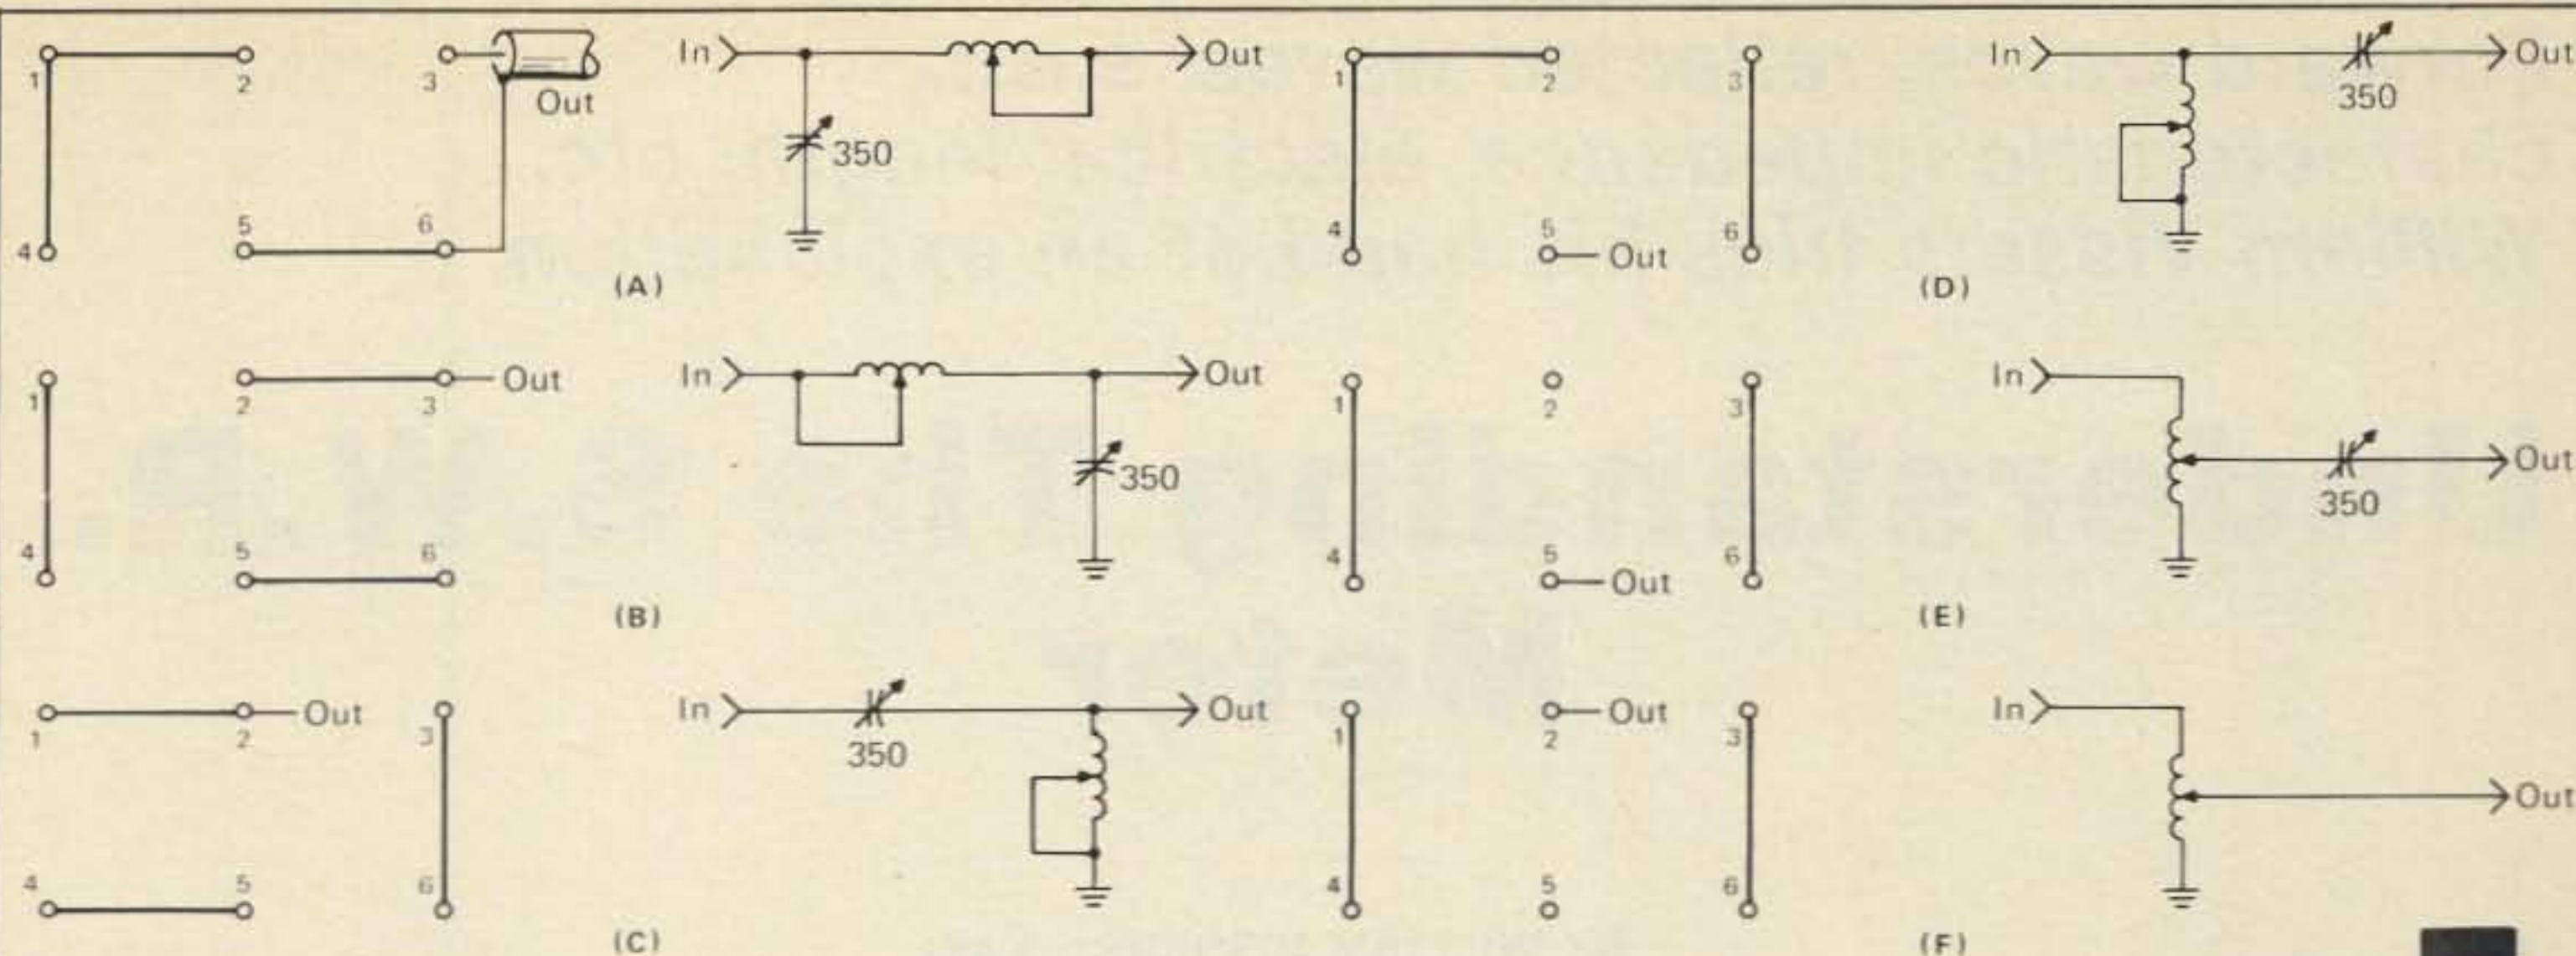
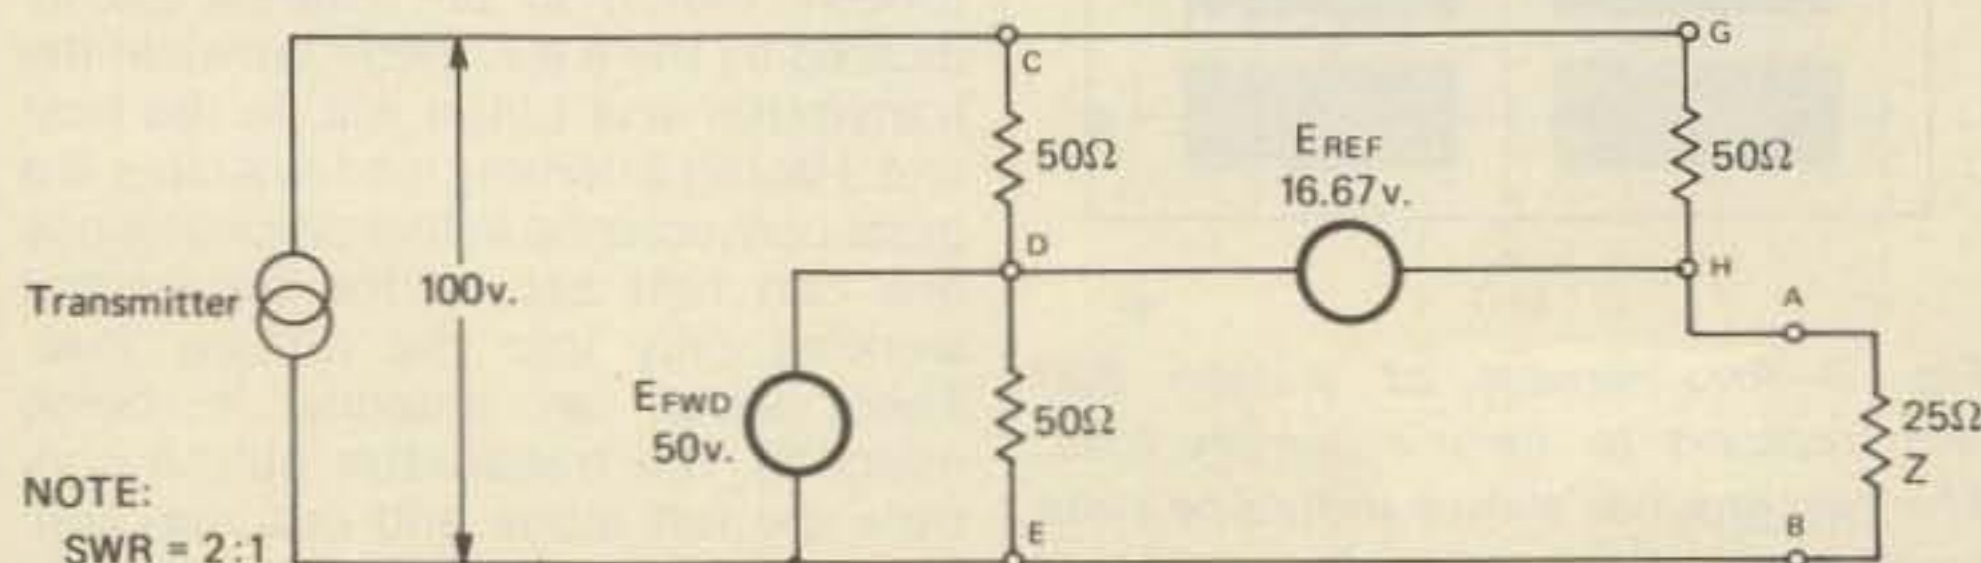

Fig. 2—Five matching networks that can be developed by strapping together the binding posts with links or just with wire.
Fig. 1 - A "primitive" bridge circuit.
Fig. 1—The binding post matrix as it would be arranged on the outside rear panel of a tuner enclosure (A). At (B) the dashed lines show the internal connections to the components mounted inside the enclosure.
The binding post matrix is something that one constructs by arranging six ordinary "5-way" insulated binding posts on a suitable panel as shown in fig. 1(a). The panel used would usually be the rear of the housing used for the antenna tuner. The spacing "X" can be any convenient spacing to suit the size of the panel or enclosure available - from  $\frac{3}{4}$  to  $1\frac{1}{2}$  inches, for instance. The connections of the tuner components to the matrix is made as show in fig. 1 (b). Binding post #1 is permanently connected to an input SO-239 coaxial connector. Binding post #6 is permanently connected to ground (chassis ground) and also serves as the connection point for an external ground wire for an antenna system. The variable capacitor, which must be insulated from ground, is permanently connected to binding posts #2 and #5. The inductor is permanently connected to binding posts #1 and #3. The contact arm on the inductor switch is permanently connected to binding post #2. These permanent connections are, of course, soldered to the pins of the binding posts which extend into the antenna tuner enclosure. Now, from the outside of the enclosure, one can interconnect the binding posts by means of "links" to form various antenna matching networks. The binding posts which must be interconnected to form a variety of matching networks is shown in fig. 2. The "links" are nothing more than cutouts from sheet copper to fit binding posts with the "X" spacing. Since only horizontal and vertical interconnections are necessary, all the links can be of the same size. The main advantage of the "links" over ordinary wire interconnections, which also can be used, is that they allow stacked connections at a binding post when necessary. For instance, binding post #1 in the first circuit of fig. 2. The output lead, say to a single wire antenna,
Let's look at the primitive bridge circuit of fig. 1 connected to our transmitter. And as we are going to use 50 ohm coaxial cable for our feedline, let's design our bridge so that each known leg is 50 ohms. We designed our bridge this way because we all know that a s.w.r. meter or r.f. wattmeter of that type is designed for a specific feedline impedance. If you try to use a s.w.r. meter designed for 50 ohms line impedance with some other line impedance you are going to run into trouble right off. Your readings will be incorrect. So I designed it the way I did to avoid any problems. No diodes and networks that couple the meters to the bridge have been shown, as they are common to all s.w.r. meters. I've only tried to show the basic bridge elements to keep this article as simple and yet as comprehensive as possible.
If we assume a transmitter output of 100 volts and if we assume the voltage indicators do not absorb any appreciable power, we can easily calculate  $E_{fwd}$  and  $E_{ref}$ . The total resistance of the two resistors CD + DE is 100 ohms, so the current through them is one ampere. And by Ohm's Law the voltage across CD will be  $E = IR = (1)(50) = 50$  volts. And the forward voltage is nothing more than the transmitter voltage minus the voltage across CD or  $100 - 50 = 50$  volts. Now the total resistance of the two resistors GH + AB is  $50 + 25 = 75$  ohms. And the current through them is  $I = E/R = 100/75 = 1.333$  amperes. Now the voltage across GH can be calculated as  $E_{GH} = IR = (50)(1.333) = 66.67$  volts. And looking at fig. 1 you see that the voltage from D to H, which is the reflected voltage, is actually the difference of the voltages across the two resistors GH and CD, or  $66.67 - 50 = 16.67$  volts. So the reflected voltage is 16.67 volts and the forward voltage is 50 volts.